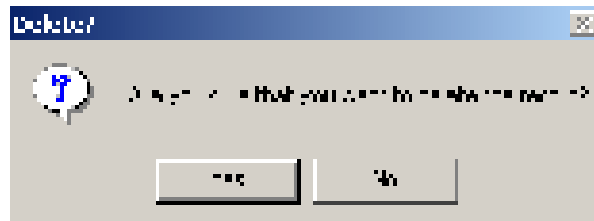

Figure 8.10 Delete confirmation message.
2. Click Delete. A confirmation message (Figure 8.10) is displayed, asking you to confirm the deletion.